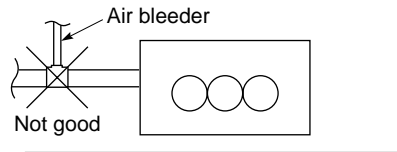

Fig. 3-81
- Do not install an air bleeder as this may cause water to spray from the drain pipe outlet. (Fig. 3-81)